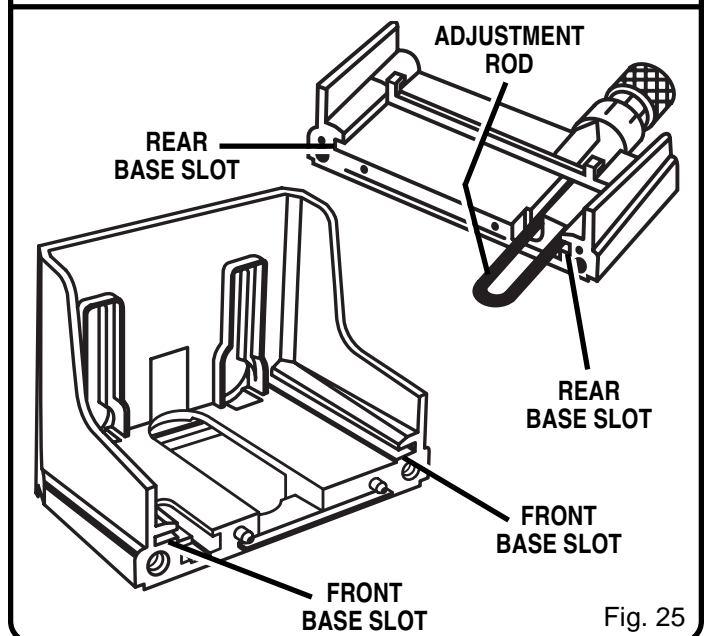

Fig. 25
- Clean wood particles and resin from slots and surrounding areas on front and rear base. See Figure 25. Apply a thin coat of general purpose grease in slots or on bearing plate where base slides.